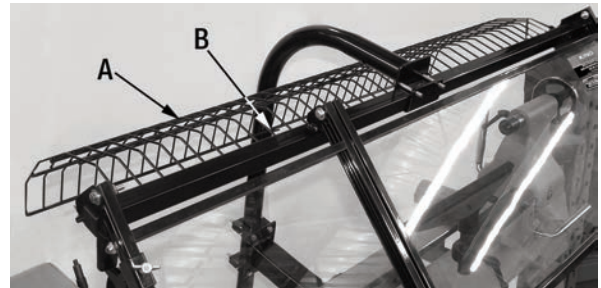

FIGURE 5
2. Place the bottom of the meshing over the hook (B) Fig.5 on the arm.